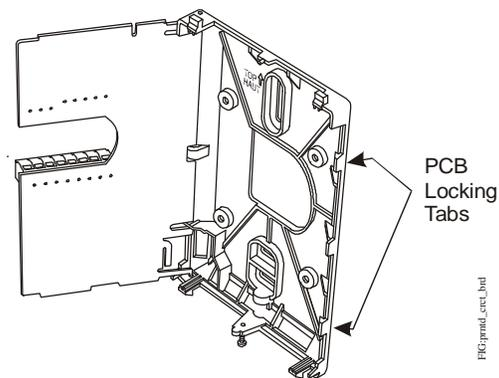

Figure 2: Opening the Thermostat PCB
3. Carefully pull the locking tabs on the right side of the thermostat controller mounting base and unlock the PCB. Open the PCB to the left as illustrated in Figure 2.